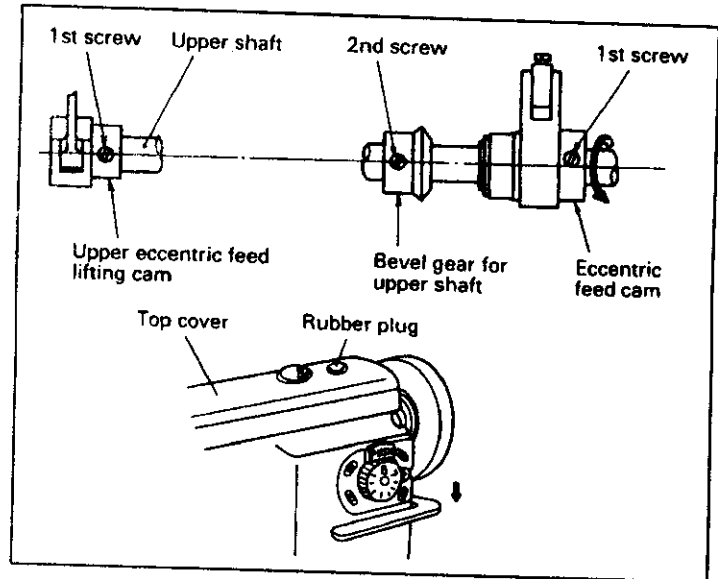

Fig.33
30、 Adjustment of feed timing (Fig.33):
- 1) The standard position of the eccentric feed cam and eccentric feed lifting cam are illustrated to Fig.33